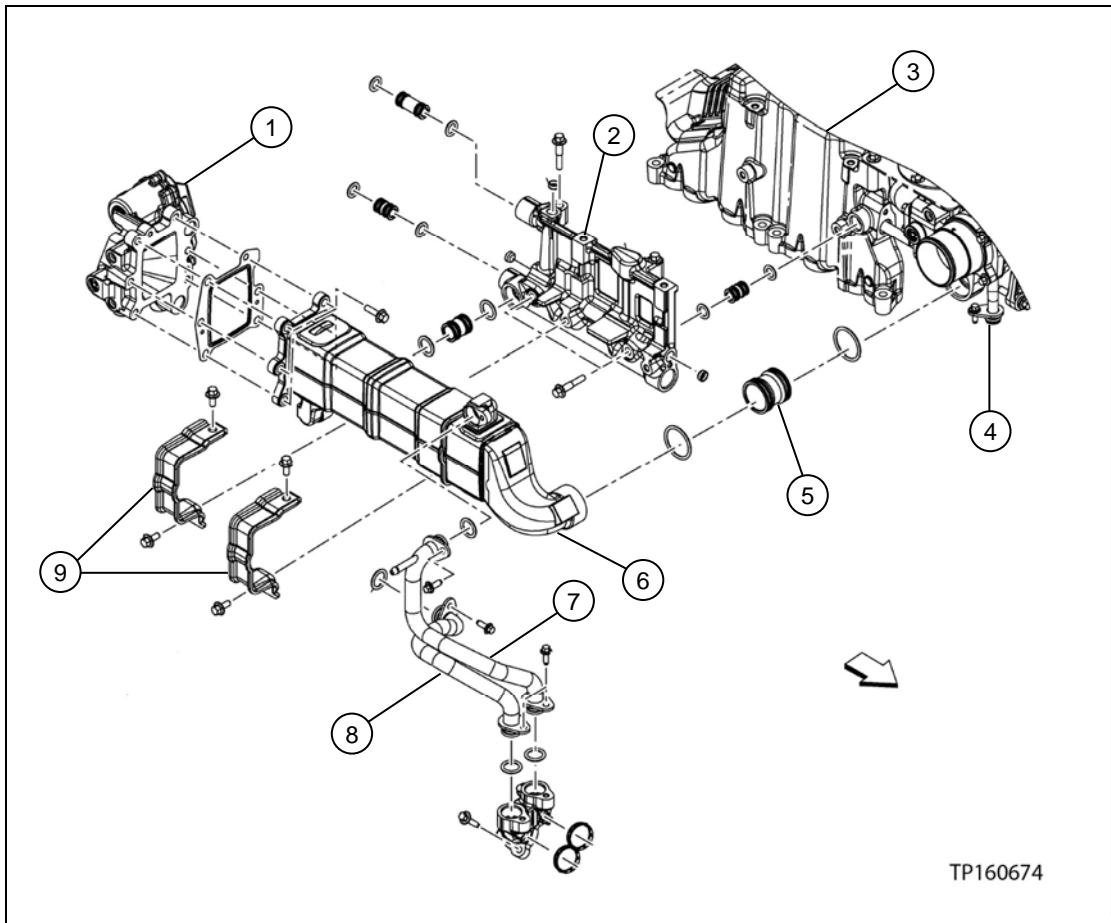

Figure 3D
- a. EGR cooler (page 55, Figure 3D, # 6): If oil residue and/or debris is found, replace it.
- b. EGR cooler jumper tube (page 55, Figure 3D, # 5): This part will be reused. Clean out any oil residue and/or debris.
- c. EGR valve (page 55, Figure 3D, # 1): If oil residue and/or debris is found, replace it.